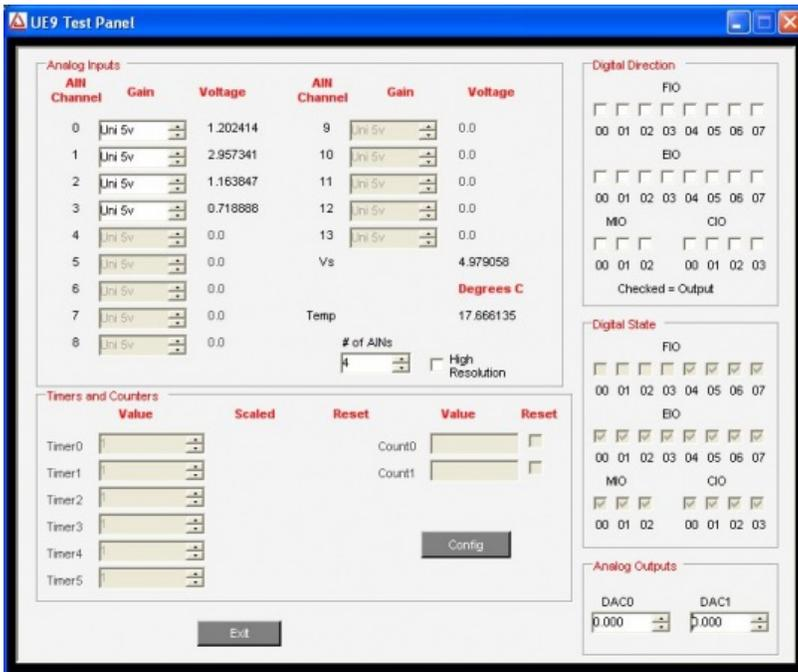

Figure 1.1-2. LJContro Pane Test W ndow
- Test: Opens the window shown in Figure 1.1-2. This window continuously writes to and reads from the selected LabJack. Starts with Factory Default settings.